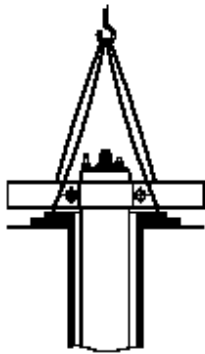

Fig. 2 Motor in vertical position.
2. Place the motor in vertical position at the borehole seal see fig. 2